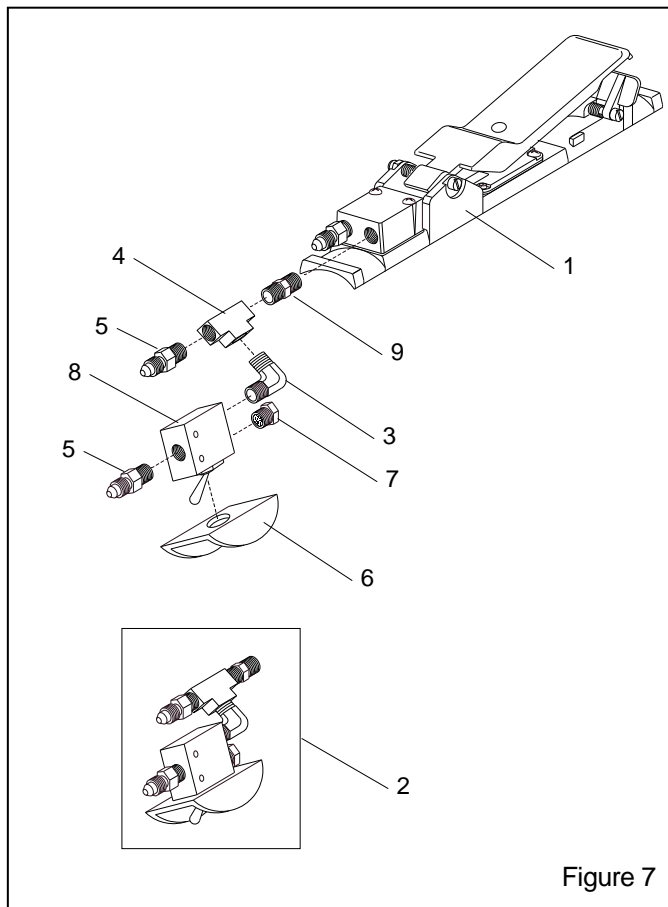

Figure 7
6.2 RLX Pneumatic Handle with ACS, Figure 7